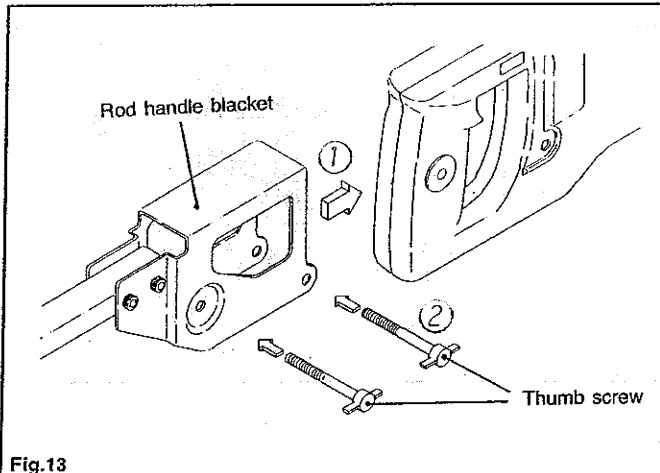

Fig.13
16. Attaching the rod handle (Fig. 13)